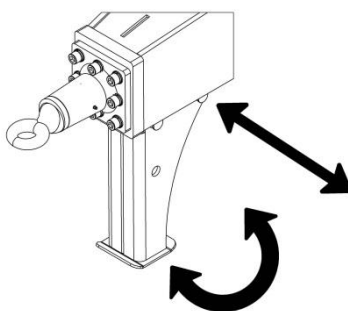

Figure 2. Support leg.
4. Raise the support leg, see figure 2.